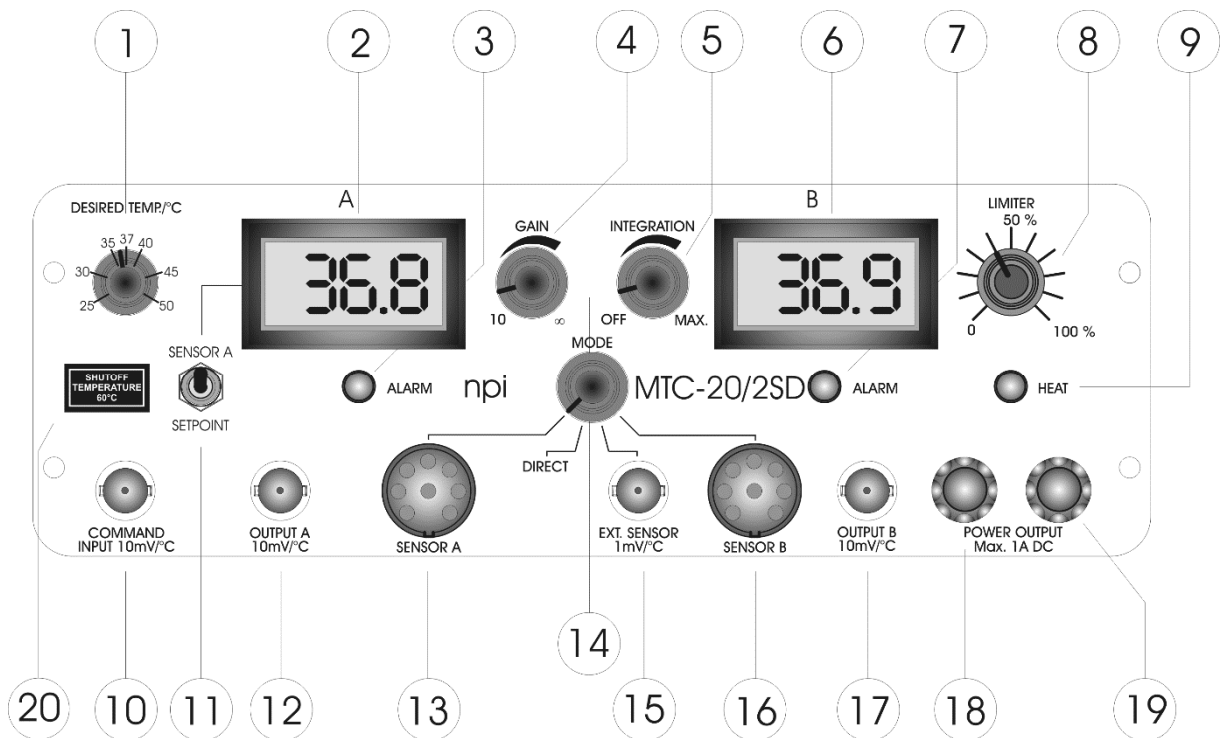

Figure 1: MTC-20/2SD front panel view
In the following description of the front panel elements each element has a number that is related to that in Figure 1. The number is followed by the name (in uppercase letters) and the type of the element (in lowercase letters). Then, a short description of the element is given.
DIRECT mode (no temperature control): the MODE switch (**14**, Figure 1) is set to the DIRECT position. The control unit is not active, i.e. the output voltage is preset directly at the LIMITER control (**8**, Figure 1). With the setting from 0% to 100% the output voltage increases linearly from 0 V to 12 V. The ALARM circuit (see below) is disabled in this mode.
- ❑ The SENSOR A or SENSOR B position selects one of the internal thermometers (SENSOR A or SENSOR B) which use a small semiconductor sensor. The measured temperature is shown at the respective digital display unit (2 or 6, Figure 1 respectively, XX.X °C).
- ❑ If no sensor is connected or if the sensor is damaged or short circuited the internal shut-off unit disconnects the power output. This state is indicated by the red ALARM LED (3 or 7, Figure 1 respectively) located just above the sensor connectors.
This mode can be used to connect an external thermometer. The calibration of the external input (SENS. INPUT BNC, (15, Figure 1)) is 1 mV / °C. If this option is used the internal ALARM circuit is disabled.
2. If the user wants to have external control (e.g. with a computer system) or to set the temperature to lower (<25 °C) or higher (>50 °C) values, the DESIRED TEMPERATURE can be set using the COMMAND INPUT 10mV / °C connector (10, Figure 1). The COMMAND INPUT is scaled 10mV / °C, i.e. +370 mV at this connector would set the DESIRED TEMPERATURE to +37 °C.